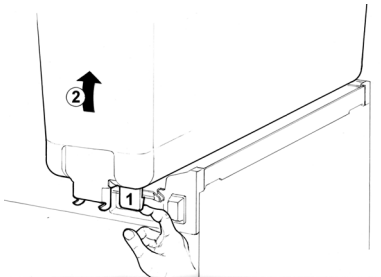

figure 1
2. Remove the empty bowl by lifting pulling lever (1) and its front side (faucet side) up and off bowl gasket (see figure 1).